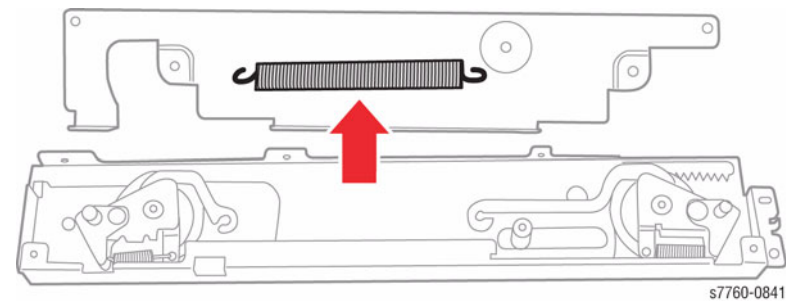

Figure 5 Tension Spring Location
3. Remove the Tension Spring (Figure 5).